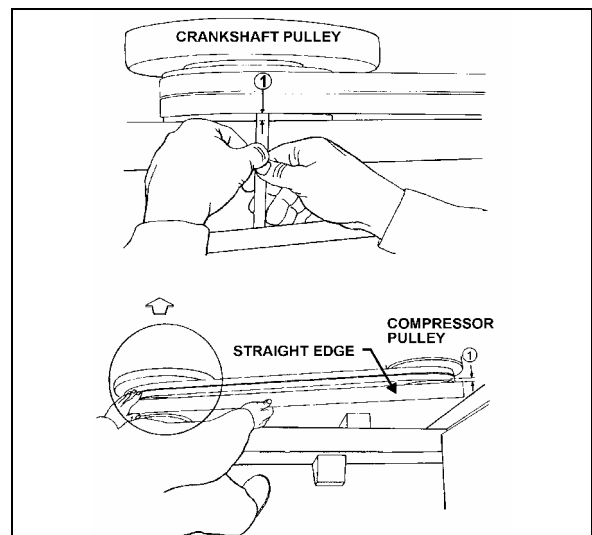

FIGURE 21: COMPRESSOR ALIGNMENT
2. Check the distance between each extremity of straight edge (1. Fig. 21) and the first drive belt. If they are different, loosen the compressor support bolts and with a hammer, knock support to slide it in order to obtain the same distance; then tighten bolts.
2. Check the distance between each extremity of straight edge (1, Fig. 21) and drive belt. If they are different, loosen the pillow block compressor bolts and with a hammer, knock compressor pillow block to slide it, in order to obtain the same distance; then tighten bolts.